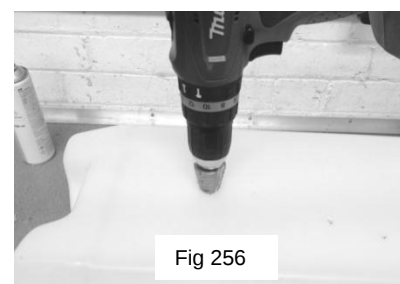

Fig 256
- b) This is the centre for a 33mm diameter hole that must be cut in the tank. We suggest using a cone cutter. Maplins usually stock them up to 32mm – we used that with a wiggle to finally open to 33mm – Fig 256.